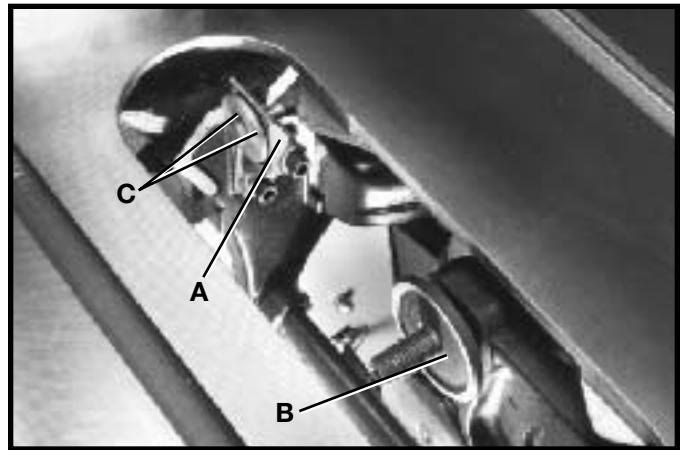
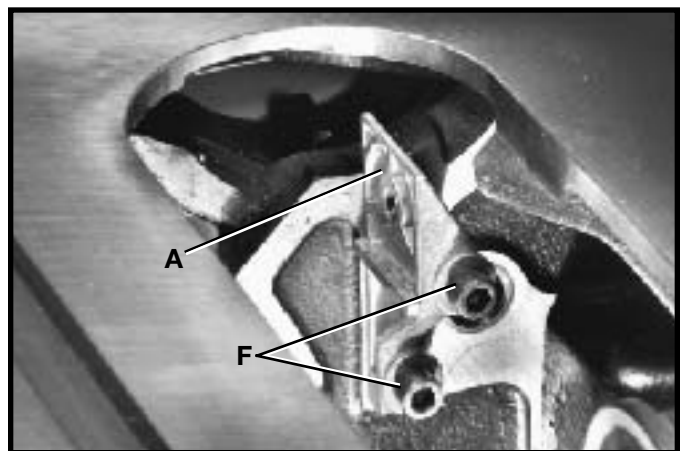

Fig. 23
Fig. 25
2. The inside splitter mounting bracket (A) Fig. 23, is assembled to the inside of the saw and aligned with the inside blade flange (B) at the factory. To check the alignment, remove screw and fastener plate (C).
4. If an adjustment is necessary, loosen two screws (E) Fig. 25, and adjust splitter bracket (A) until it is aligned with the inside blade flange (B) Fig. 23 . Tighten two screws (F). Loosely assemble screw and fastener plate (C) which were removed in **STEP 2**.